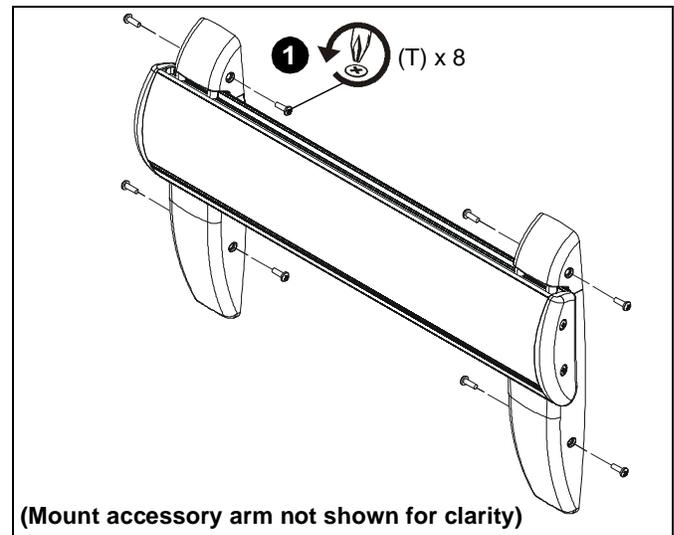

Figure 33
1. Remove eight #8-32 x 1/2" Phillips pan machine screws (T) from wall bracket covers. (See Figure 33)